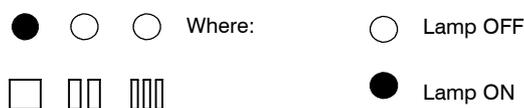

Fig. 21
- 6 The lamps F should give the indication as in Fig. 21. If not, press the reset button repeatedly to obtain it.